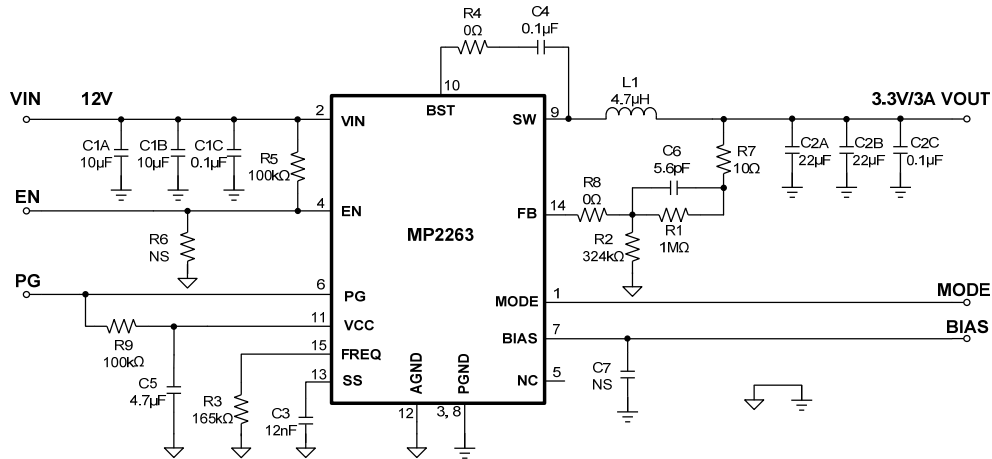

Figure 8:  $V_{IN} = 12V$ ,  $V_{OUT} = 3.3V$
- 8) The recommended layout is based on Figure 8.
The detailed application schematic is shown in Figure 8. The typical performance and circuit waveforms are shown in the Typical Performance Characteristics section. For additional device applications, please refer to the related evaluation board datasheets.